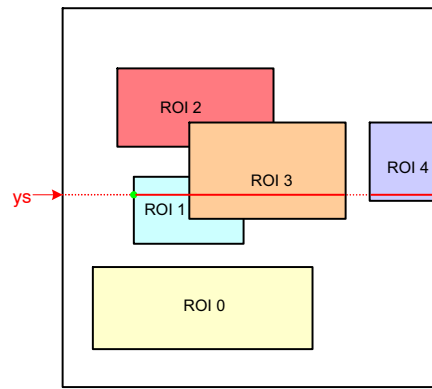

Figure 28. Scanning the Image Array with Five Windows
Figure 28 illustrates a practical example of a configuration with five windows. The current position of the
- The read pointer is not necessarily incremented by one, but depending on the configuration, it can jump in  $y$ -direction. In Figure 28, this is the case when reaching the end of ROI0 where the read pointer jumps to the  $y$ -start position of ROI1